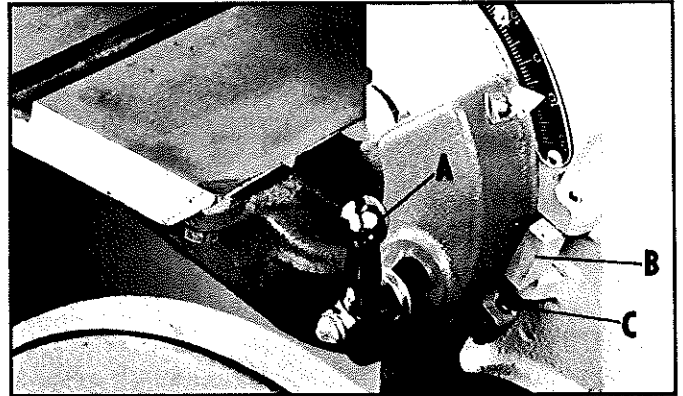

Fig. 14
1. Loosen the table tilting handle (A) and lift the table up to approximately 10° , as shown in Fig. 14.
2. Flip out the stop bracket (B) and lower the table until the adjustable screw (C) contacts the stop bracket (B) Fig. 14.